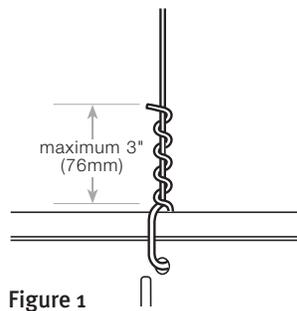

Figure 1
- Twelve (12) gage hanger wire shall be spaced no more than 4 feet on center along main carrying beams. All wire ties to be three (3) tight turns. See figure 1. (*ASTM C-636*) OSHPD and DSA-SS projects require 3 tight turns within 1 1/2 inches. (*CBC Section 1614A.1.12 item 5*)